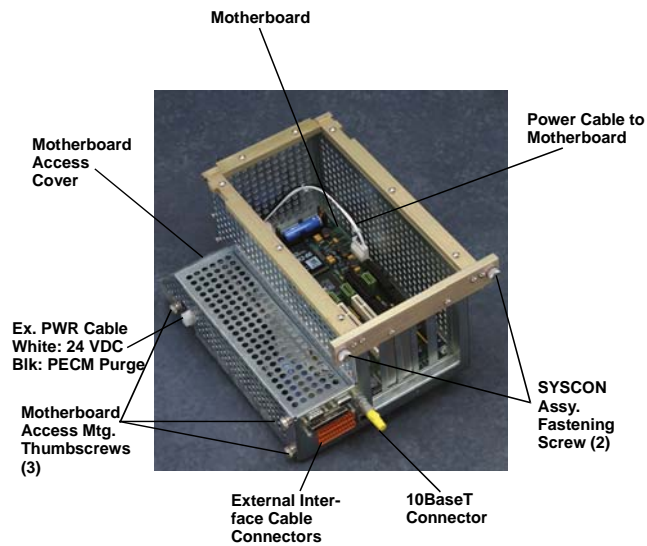

Figure 4-3: Accessing/Removing Motherboard (Original SYSCON is Shown)
The following procedures should be followed for removal and installation of SYSCON and the installed motherboard. Components to be removed to access the motherboard are shown in Figure 4-3 and 4-4.
5.	Install the expansion board in the appropriate SYSCON motherboard expansion slot. Be certain the board is properly seated in its connector and screw it into the mounting chassis. Refer to Figure 4-3.